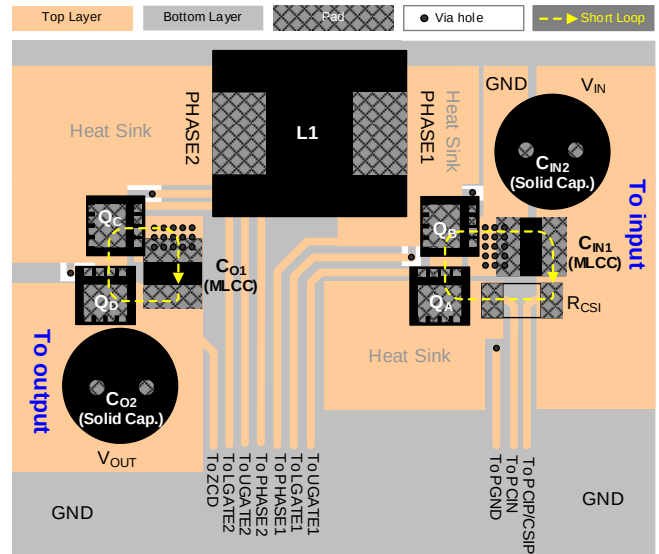

Figure 6. Recommended PCB Layout of the Power Stage
- ▶ Figure 6 is a recommended placement of the PWM Buck-Boost power-stage. Two critical loops “from $C_{IN1} \rightarrow R_{CSI} \rightarrow Q_A \rightarrow Q_B$ to C_{IN1} ” and “from $C_{O1} \rightarrow Q_D \rightarrow Q_C$ to C_{O1} ” must be as short as possible to minimize the switching noise at PCIP/CSIP, PCIN, PHASE1, PHASE2 and ZCD pins. The shorter paths also help to reduce radiated EMI. It is necessary to use an MLCC ($10\mu F/50V$, X5R/X7R) for the input capacitor (C_{IN1}) and output capacitor (C_{O1}). For reducing the input and output voltage ripples during heavy load operation, it is recommended to add more MLCCs or solid input and output capacitors. Moreover, to improve heat